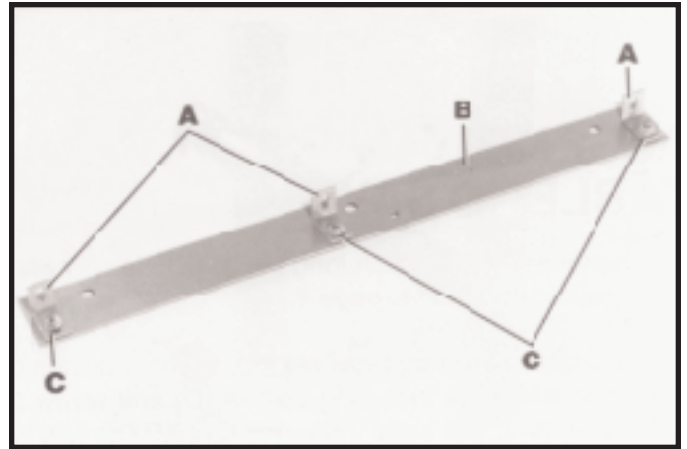

Fig. 8
1. Assemble three brackets (A) Fig. 8, to table adapter plate (B) using three 1/4-20 x 3/4 inch-long carriage bolts, flat washers and hex nuts (C). Do not completely tighten hardware at this time as adjustments must be made.